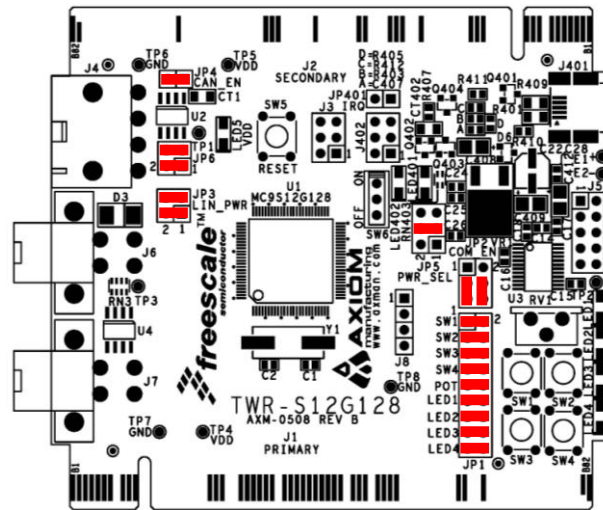

Figure 1: TWR-S12G128 Default Option Settings
1. Verify the option jumpers are set in default positions. Refer to Figure 1 above.
- Ensure the option jumpers are set to default positions. Refer to Figure 1 above. Specifically, ensure the PWR\_SEL option jumper is set correctly.
- If keystrokes are not echoed in the terminal window, ensure the terminal program is correctly configured. Also, ensure the COM\_SEL jumpers are set properly, refer to Figure 1 above.